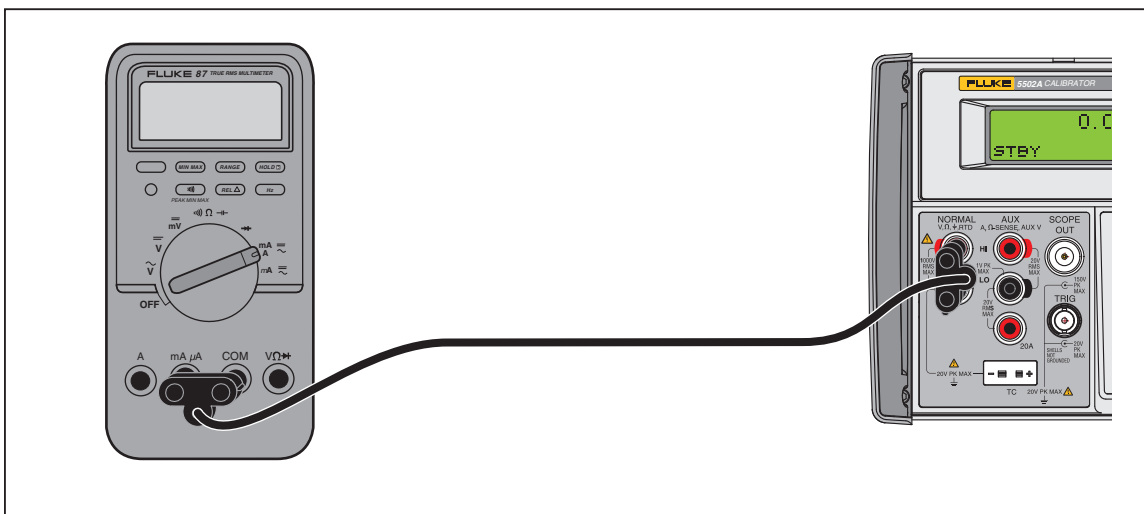

Figure 4-16. Cable Connections to Verify an 80 Series Current Function
- b. Make sure that the Calibrator is in standby and connect the DMM as shown in Figure 4-16.
3. Connect a set of test leads to the DMM as shown in Figure 4-16.